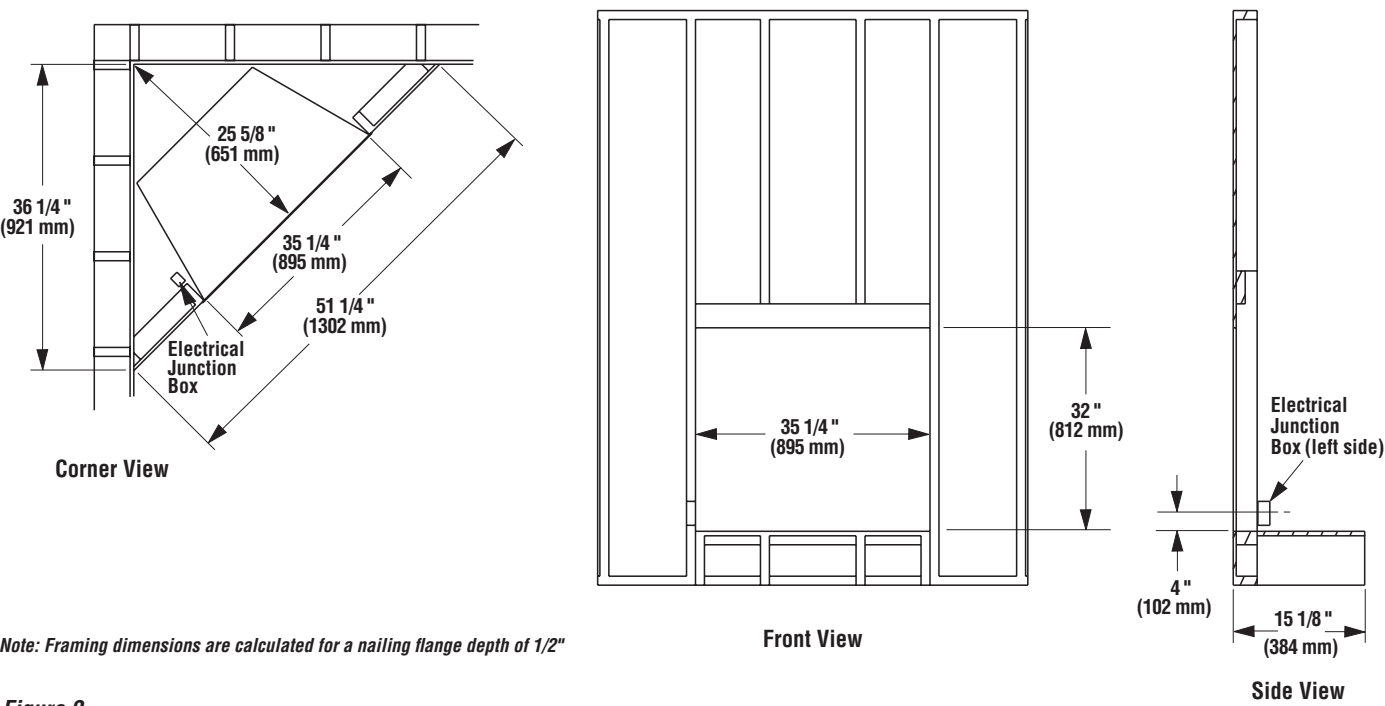

Figure 2
1. Complete the framing opening to the dimensions specified in *Figure 2*.